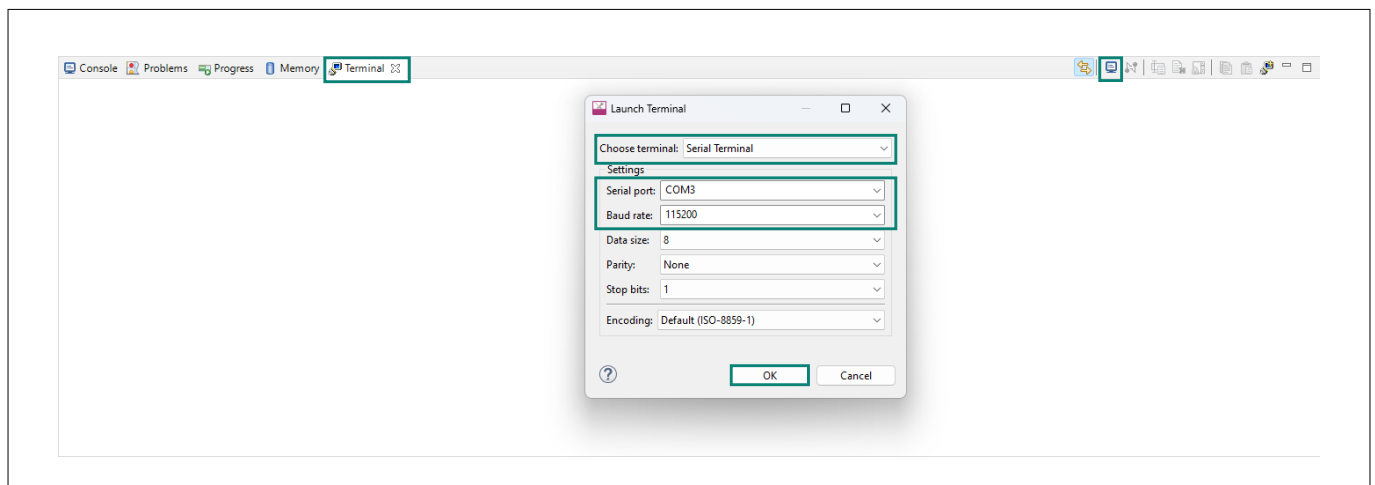

Figure 12 Opening the serial terminal window and connecting to USB-UART for LED blink code
10. To view “Hello World” in the terminal window, make sure to open the serial terminal and connect it to the KitProg3 USB-UART COM port with baud rate of 115200. You can access the serial terminal available in the ModusToolbox™ near the **Console** window (see Figure 12)